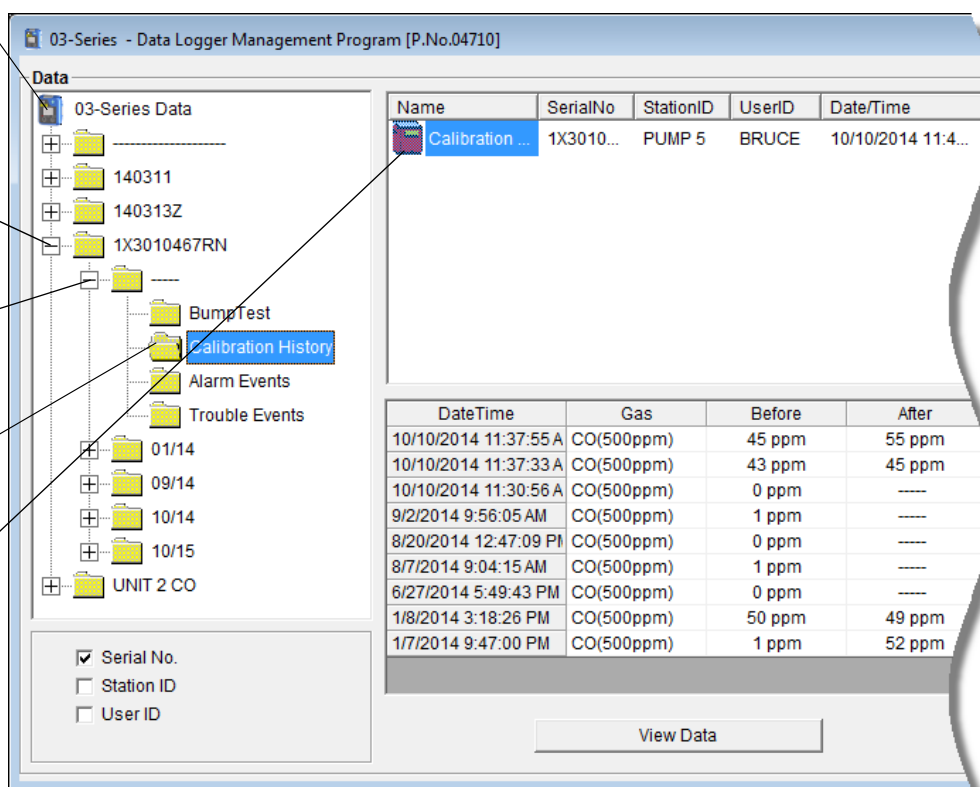

Figure 23: Data Window - Selecting Calibration History Files
8. If you click the **Summary** button, the Data Window will split into two frames, one above the other, with the calibration history list in the lower frame and the summary information shown in the upper frame. The summary information is the same as the information shown in the upper right frame in Figure 23. To return to the one-frame format, click **Summary** again.